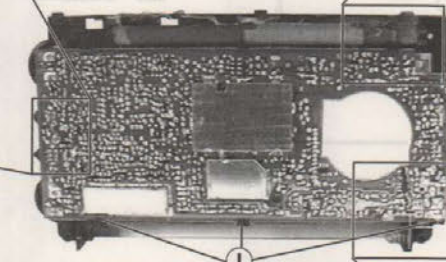

Fig.11
- 3 Rastnasen (I) (Fig.11) ausrasten.
- Disengage 2 latches (I) (Fig.11).